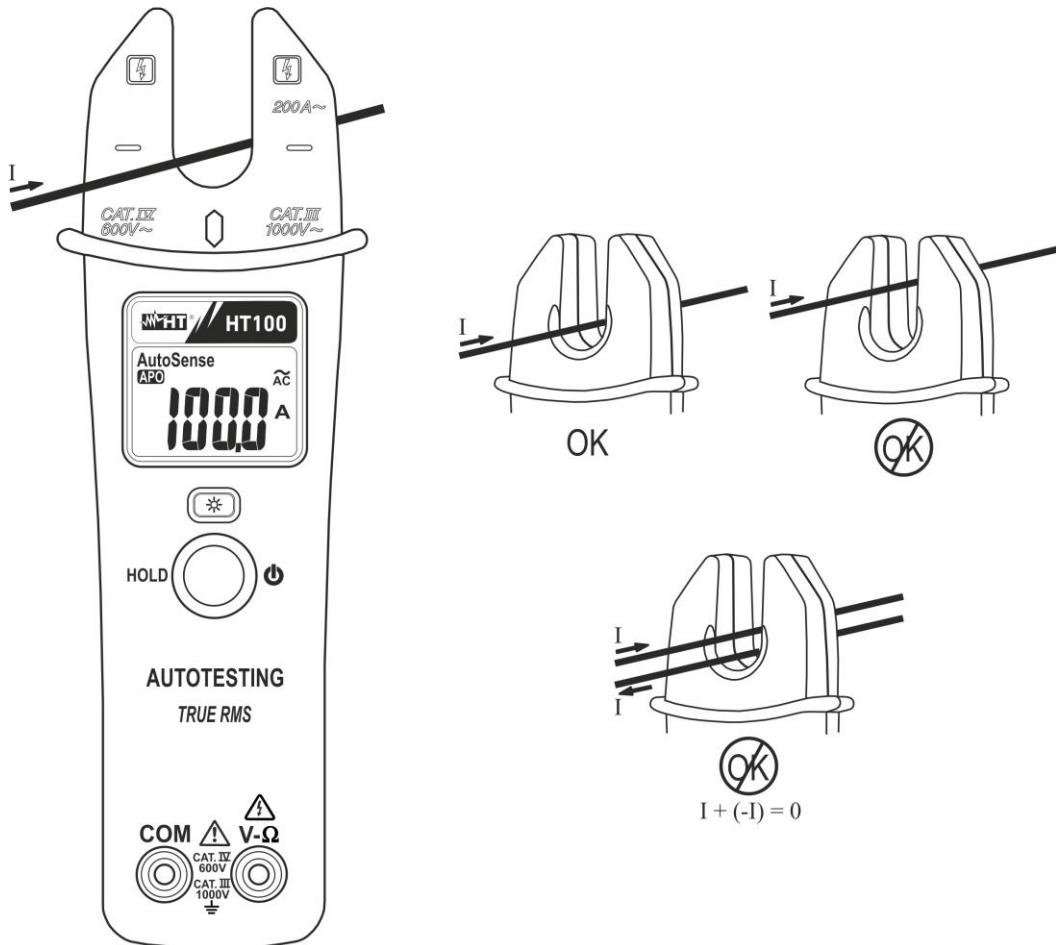

Fig. 7: Taking AC current measurement
1. Put the conductor to be tested inside to the "open" clamp jaw (see Fig. 7) considering the alignment marks (see § 4.1.2). The current value is shown at display.